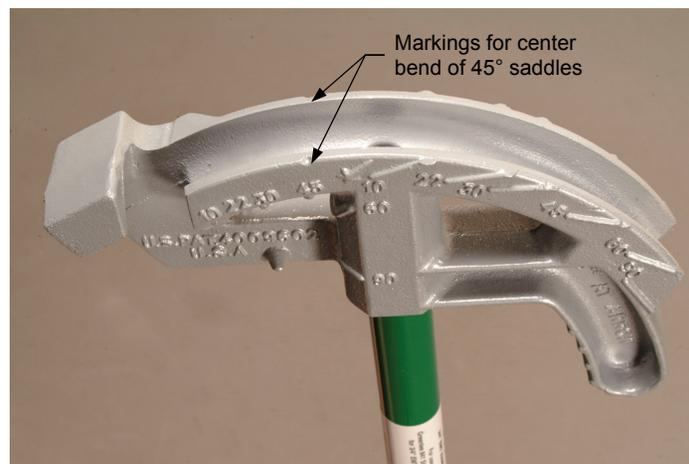

Figure 30. Markings on the bending shoe of a typical hand bender (GreenLee® Site-Rite II® 841) that are used when performing the center bend of a saddle.
1. Figure 30 shows the markings on the bending shoe of a typical hand bender (GreenLee® Site-Rite II® 841) that are used when performing the center bend of a saddle.